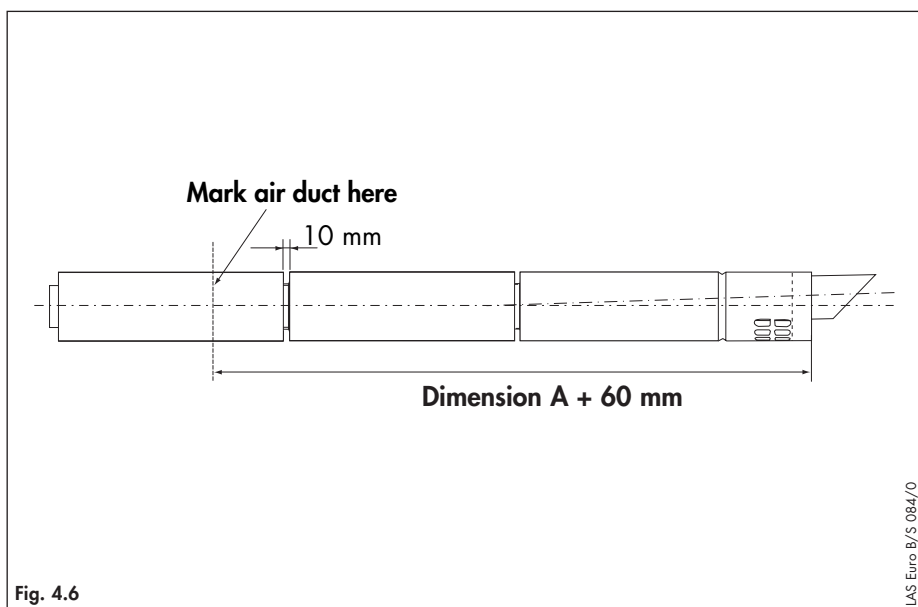

Fig. 4.6
- For ease of measuring and marking the air/flue duct extensions, assemble them loosely together with the air/flue duct and terminal assembly as shown (fig. 4.6).